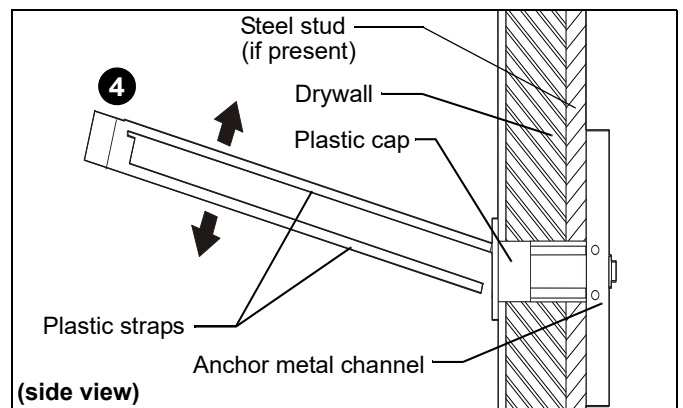

Figure 26
4. Snap off plastic straps on anchor at wall by pushing side to side, snapping off straps level with flange of plastic cap. (See Figure 26)